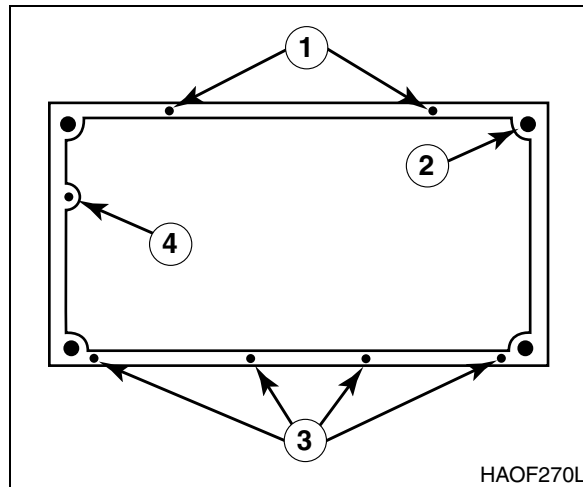

Figure 9
- Install four mounting nuts on four corners of cab floor (2, Figure 9).
- Install four hex bolts (3, Figure 9) in door side of cab floor.
- Install two hex bolts (1, Figure 9) in right side of cab floor and one bolt (4) in front of cab floor.